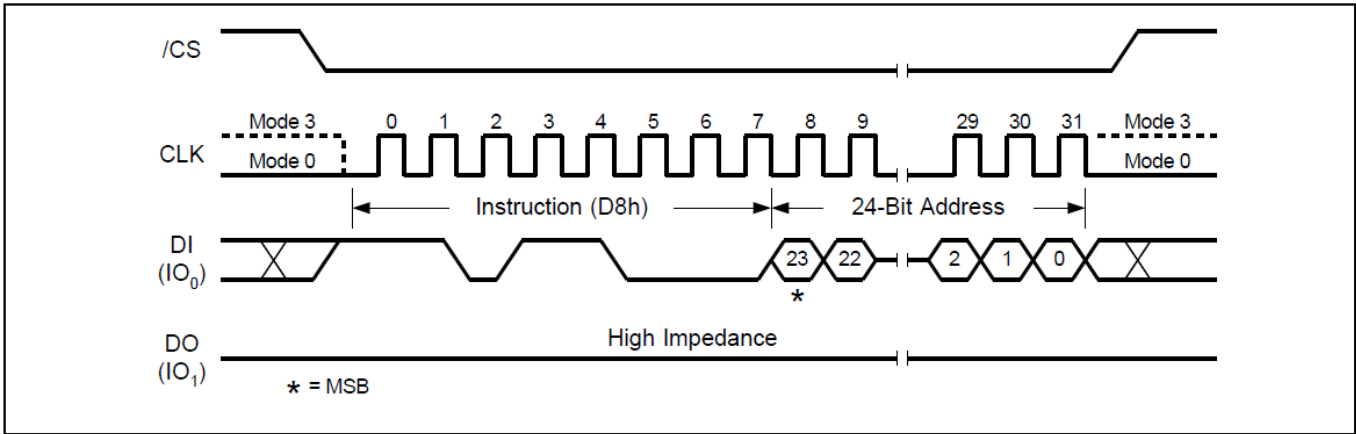

Figure18. 64KB Block Erase Sequence Diagram
The 64KB Block Erase command sequence: CS# goes low → sending 32KB Block Erase command → 3-byte address on DI → CS# goes high. The command sequence is shown in Figure 18. CS# must be driven high after the eighth bit of the last address byte has been latched in; otherwise the 64KB Block Erase (BE) command is not executed. As soon as CS# is driven high, the self-timed Block Erase cycle (whose duration is tSE) is initiated. While the Block Erase cycle is in progress, the Status Register may be read to check the value of the Write in Progress (BUSY) bit. The Write in Progress (BUSY) bit is 1 during the self-timed Block Erase cycle, and is 0 when it is completed. At some unspecified time before the cycle is completed, the Write Enable Latch (WEL) bit is reset. A 64KB Block Erase (BE) command applied to a block which is protected by the Block Protect (SEC, TB, BP2, BP1, and BP0) bits (see Table 1-2) is not executed.
The Chip Erase command sequence: CS# goes low → sending Chip Erase command → CS# goes high. The command sequence is shown in Figure18. CS# must be driven high after the eighth bit of the command code has been latched in; otherwise the Chip Erase command is not executed. As soon as CS# is driven high, the self-timed Chip Erase cycle (whose duration is tCE) is initiated. While the Chip Erase cycle is in progress, the Status Register may be read to check the value of the Write in Progress (BUSY) bit. The Write in Progress (BUSY) bit is 1 during the self-timed Chip Erase cycle, and is 0 when it is completed. At some unspecified time before the cycle is completed, the Write Enable Latch (WEL) bit is reset. The Chip Erase (CE) command is executed, if the Block Protect (BP2, BP1, and BP0) bits are 0 and CMP=0 or the Block Protect (BP2, BP1, and BP0) bits are 1 and CMP=1.